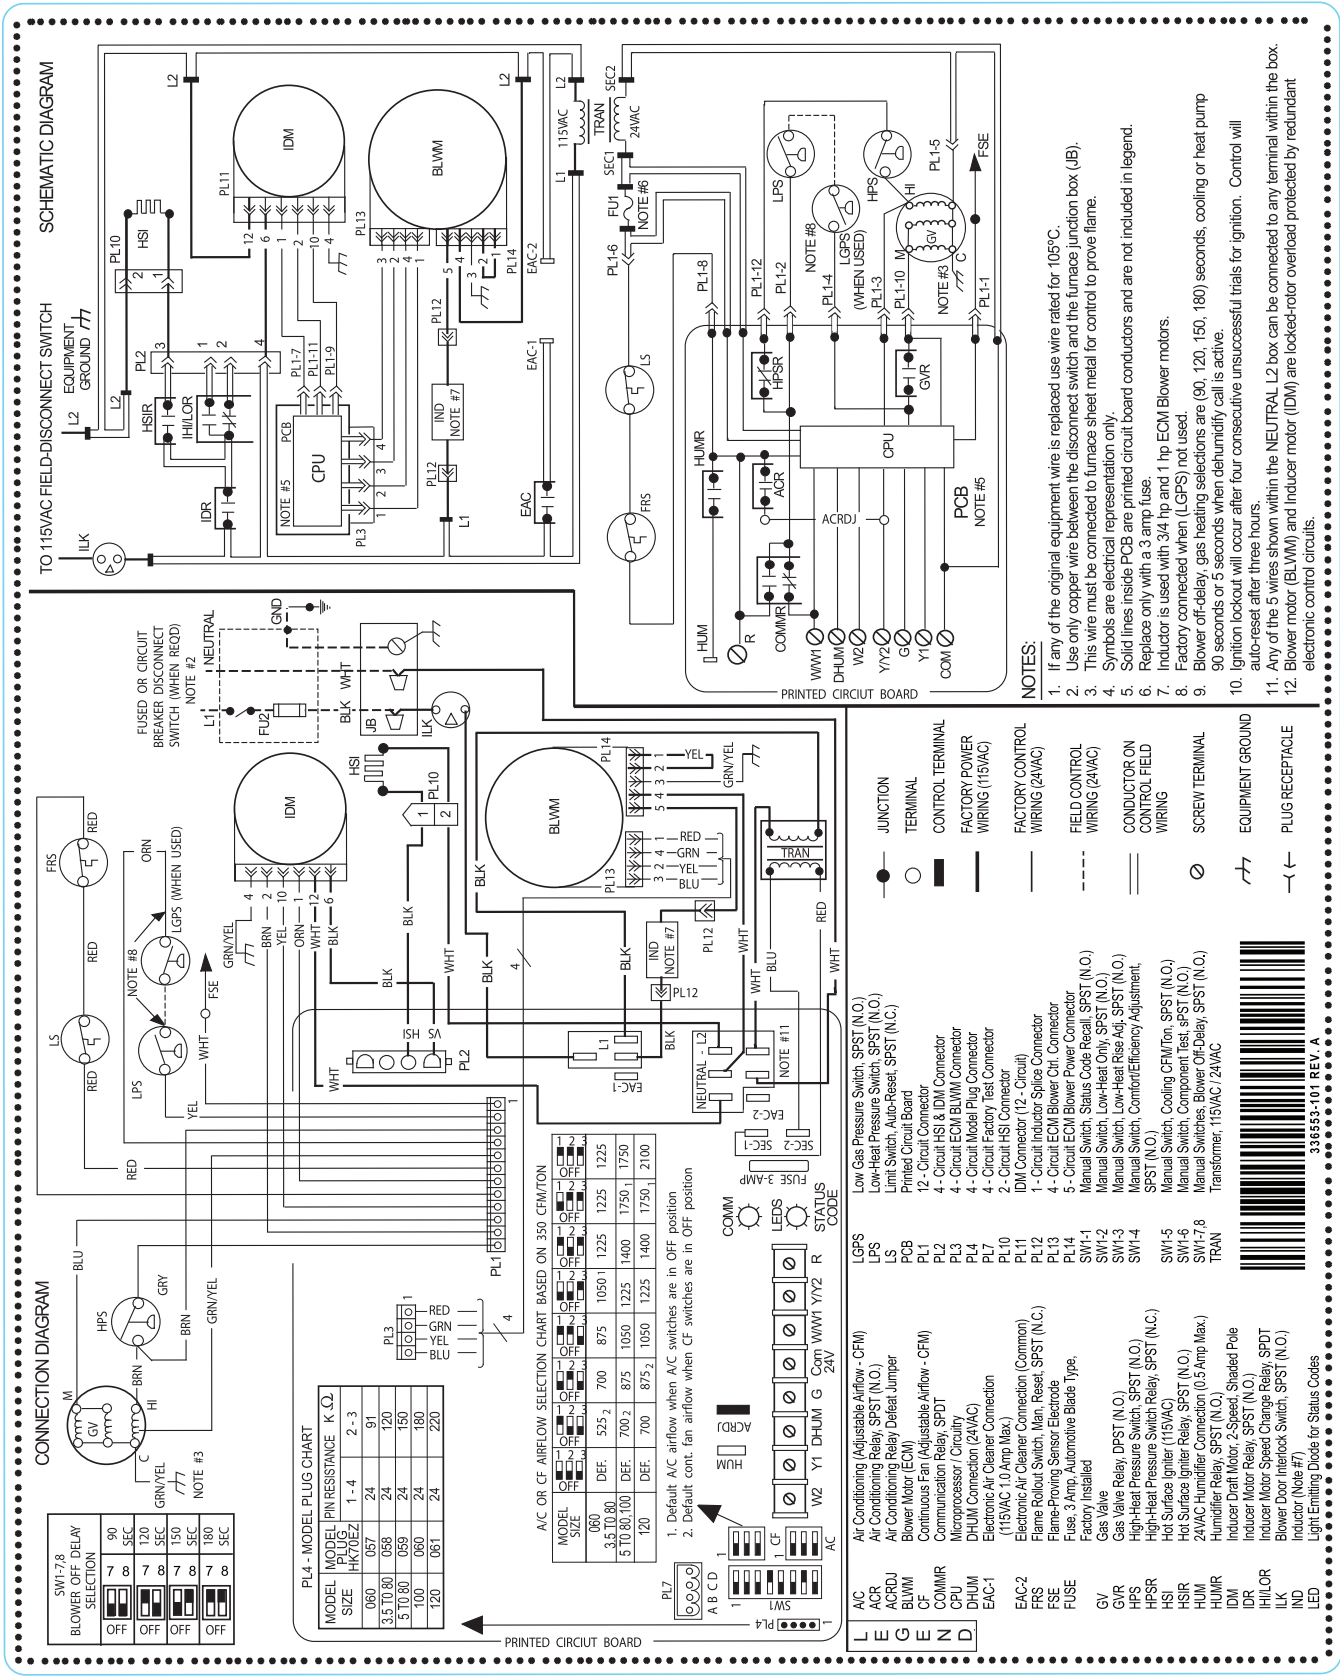

Fig. 23 - Wiring Diagram
4. Use wiring schematic to determine proper setup position of CF switches. (See Fig. 23 and 39.)
Connect an accessory 24 VAC, 0.5 amp maximum humidifier (if used) to the 1/4-in. male quick-connect HUM terminal and COM-24V screw terminal on the control board thermostat strip. The HUM terminal is energized when blower is energized in heating. (See Fig. 23 and 33.)